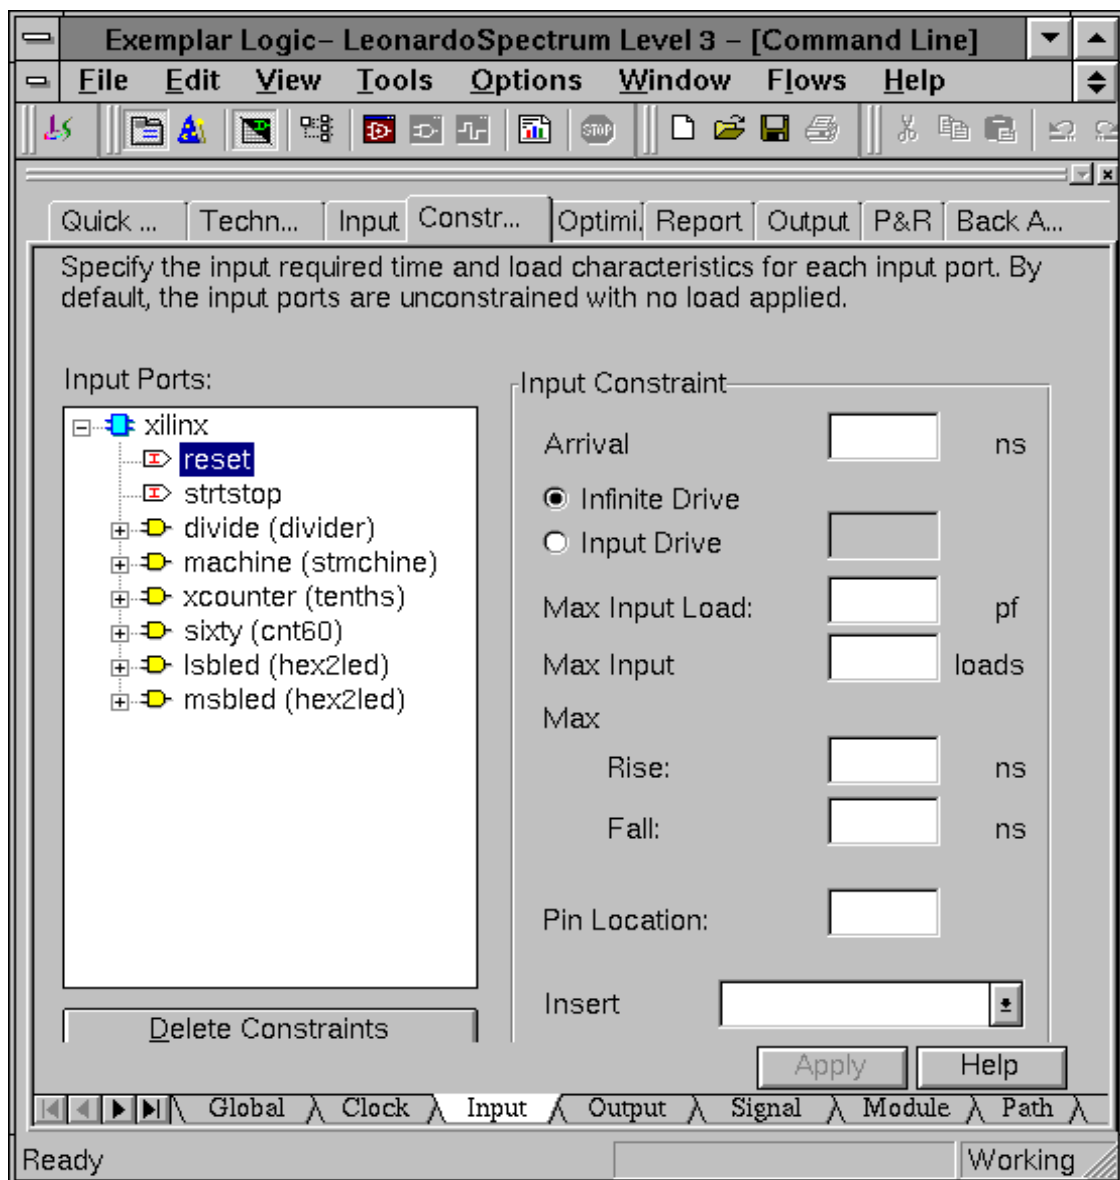

Figure 1-13 Spectrum Level 3 Constraints window
9. Click on the Constraints tab. Since this design runs at quite a slow frequency it is not necessary to enter in a Clock frequency. You can enter in a Global timing constraint for the clock, of 40 MHz to see the resulting .ncf file timing constraints that are written out. Click on the Apply button. We will be using the Input sub-tab, found at the bottom of this particular window, to lock two signals to two pins, then use a .UCF to lock all the rest in order to save time. See figure 1-13.